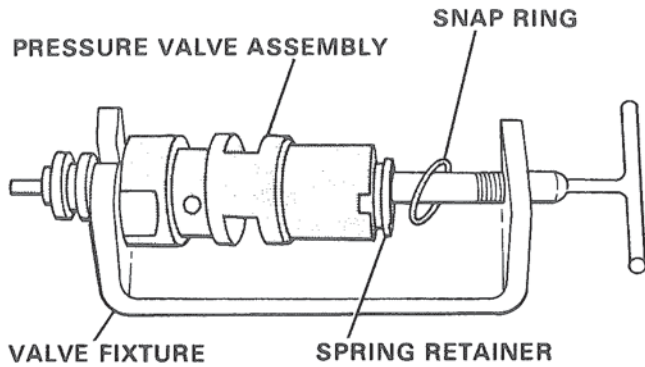

Figure 86. Control Valve Assembly in Fixture.
3. Place the assembled parts in a suitable assembly fixture or arbor press. Figure 86. Turning handle of threaded plunger, compress the regulator valve spring groove for the snap ring in the pressure regulator valve is fully exposed.